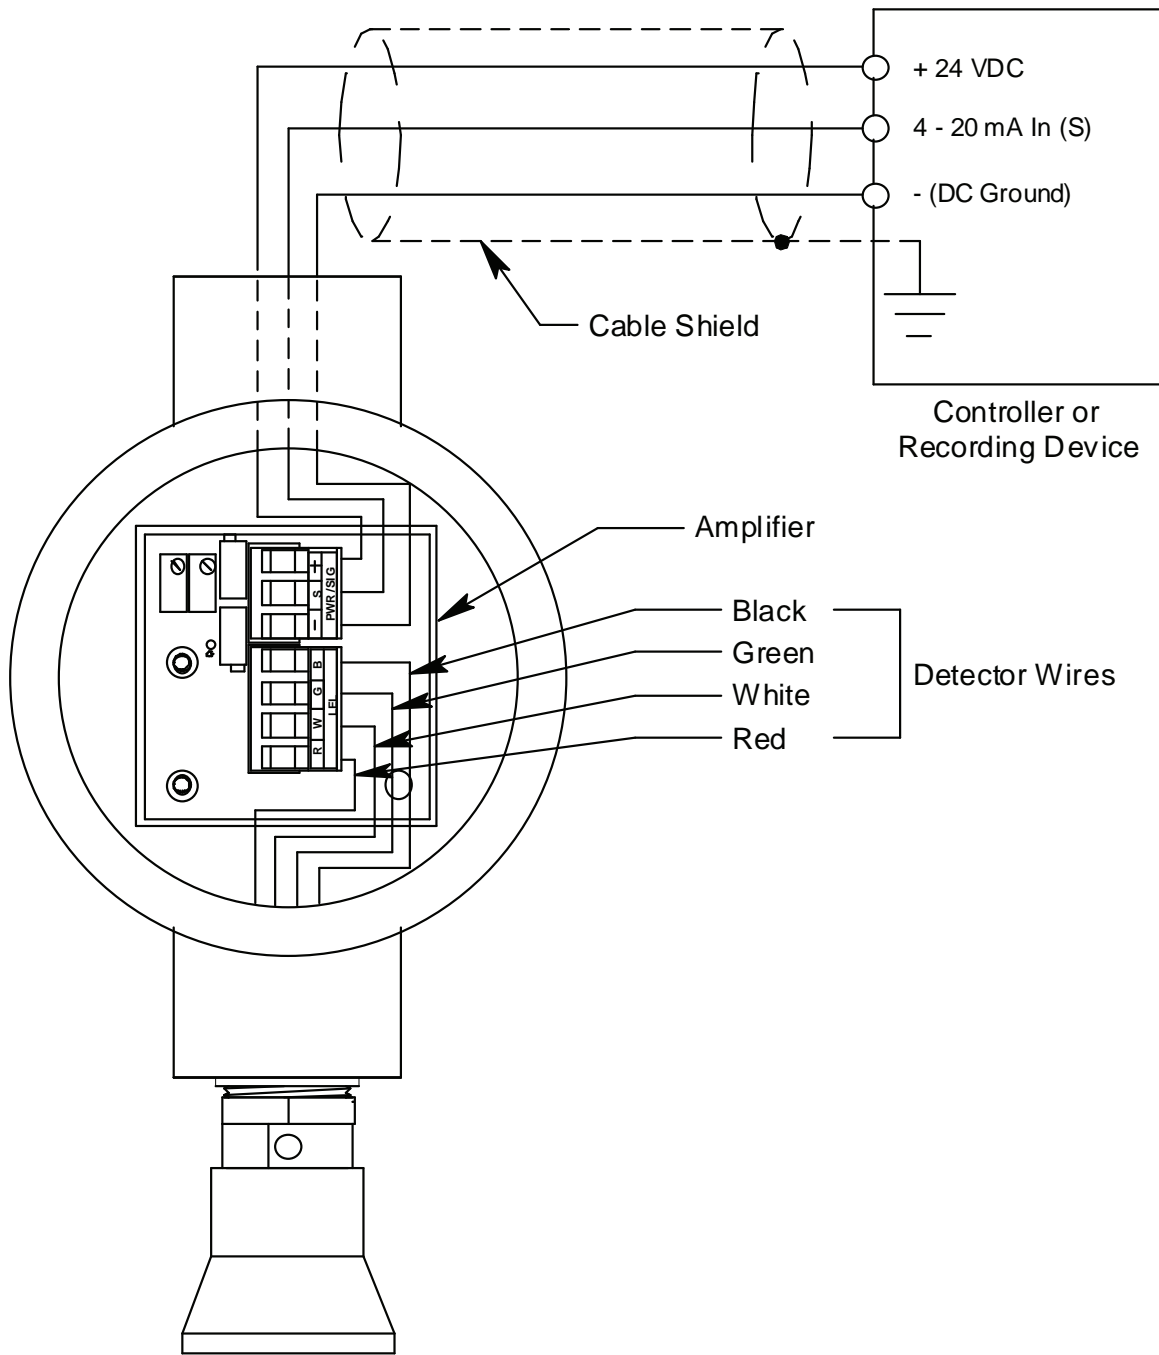

Figure 3: Wiring the Combustible Gas Transmitter to a Controller
4. The detector leads are factory wired. Verify that the detector leads are wired to the amplifier's detector terminal strip as shown in Figure 3.
7. Pull out the controller terminal strip, and connect the three wires to the terminal strip as follows (see Figure 3).
11. Connect the wires to the applicable detector/transmitter terminal strip at the controller as shown in Figure 3
- Connect the detector leads to the detector terminal strip as shown in Table 3 below and Figure 3 on page 6 of this manual.
- Install the detector and controller terminals strips into their sockets on the new amplifier as shown in Figure 3 on page 6 of this manual. If controller leads or detector leads were removed during this procedure, refer to Table 4 and Table 5 below.